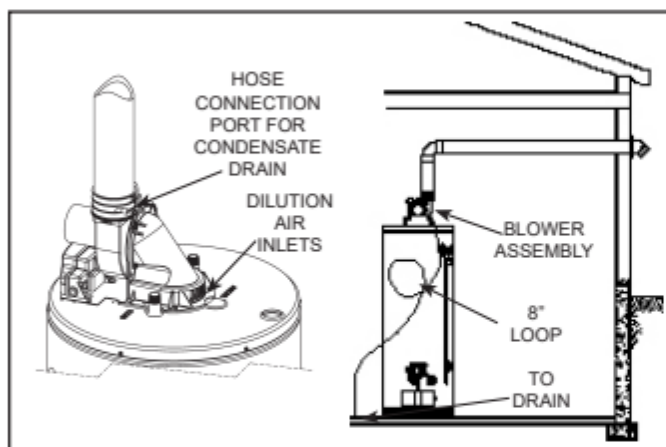

Figure 28.
1. This power vented water heater comes with blower assembly installed (see Figure 28).
This heater requires room air to lower the flue gas temperatures before the gases pass through the vent system. The dilution air inlets are located on the rear of the blower assembly (see Figure 2 and Figure 28). As the room temperature rises, the ability to lower the flue gases temperature lessens so special attention to the choice of venting material is required. Establishing the ambient temperatures where the heater and the venting is installed is very important, especially in regions with warmer climates or any region that experiences hot summers. Ambient conditions between 110°F and 140°F require that the venting material be either CPVC or polypropylene. Areas that can experience high ambient environments include closets, alcoves, areas under staircases, attics-especially in metal roofed buildings, areas with restricted air movement, rooms with large solar gains, metal sheds, industrial or commercial enterprises and venting systems exposed to direct sunlight. For high temperature environments, obtain high limit switch upgrade Kit #100112696 and use the higher rated vent piping. Use of cellular core PVC (ASTM F891), cellular core CPVC, or Radel® (polyphenylsulfone) in non-metallic venting systems is prohibited.
Condensate formation does not occur in all installations of power vented water heaters, but should be drained on installations where it can form in the venting system. Condensation in the venting system of power vented water heaters is dependent upon installation conditions including, but not limited to, ambient temperature and humidity of installation location, ambient temperature and humidity of venting space, vent discharge and slope, and product usage. In certain conditions, installations in unconditioned space or having long horizontal or vertical vent runs can accumulate condensate. Long lengths of venting that pass through cool/cold areas will experience condensation. The vent pipe should be sloped upwards away from the blower assembly, then adequate means for draining and disposing of the condensate needs to be made by the installer. If installation conditions cause condensation, install a condensate trap loop approximately 8" in diameter using 3/8" plastic hose. Connect the hose to the built-in drain port of the rubber coupling of the blower assembly (see Figure 28). Loop the hose in a vertical position as shown. The tube loop must be filled with water at least half way prior to operating the heater. Ensure the end of the tube has access to a drain as condensate will flow from the end. Secure the tubing to the side of the heater. Prior to operating the water heater, make sure the removable cap is installed on the drain port (if a drain hose is not needed).